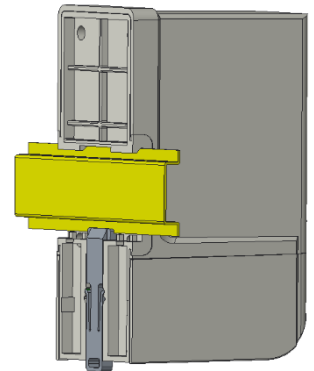

Figure 2
2. Install the meter into the 35mm Din Rail (Figure 2)